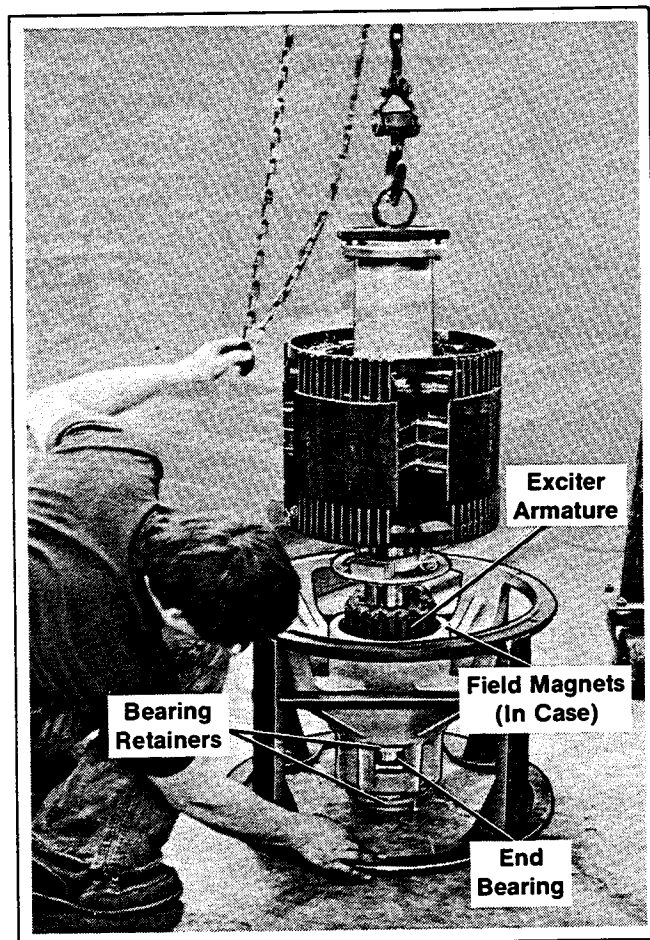

Figure 5-11. Lowering Rotor
3. Suspend rotor over end bracket. Lower rotor into end bracket taking care not to damage exciter armature or field magnets. Position end bracket to guide rotor end bearing into end bracket. See Figure 5-11. Fasten both bearing retainers to end bracket, if equipped, *but do not final tighten*.